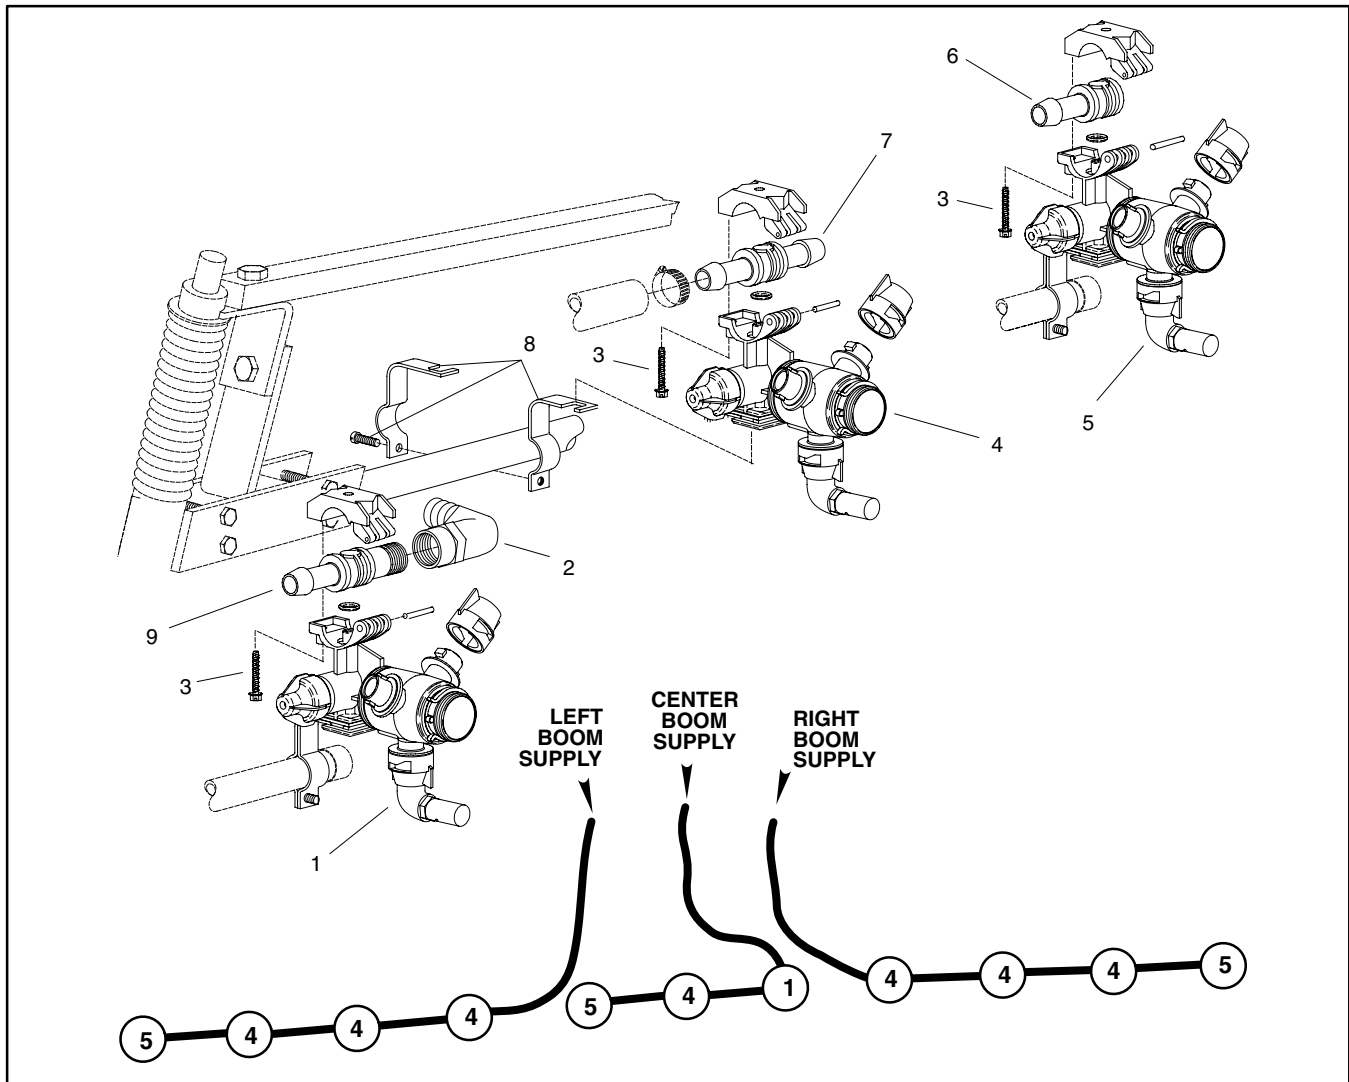

Figure 36
### Removal (Fig. 36)
### Installation (Fig. 36)
**NOTE:** The type of hose barb on turret body determines turret location on spray boom. Refer to Figure 36 for turret position on booms.